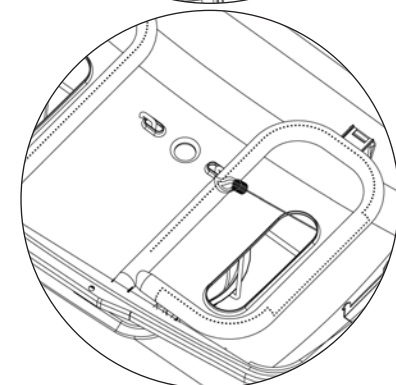

Figure 6
9. After lighting, observe the burner flame, make sure all burner ports are lit and flame height matches illustration. (Figure 6)